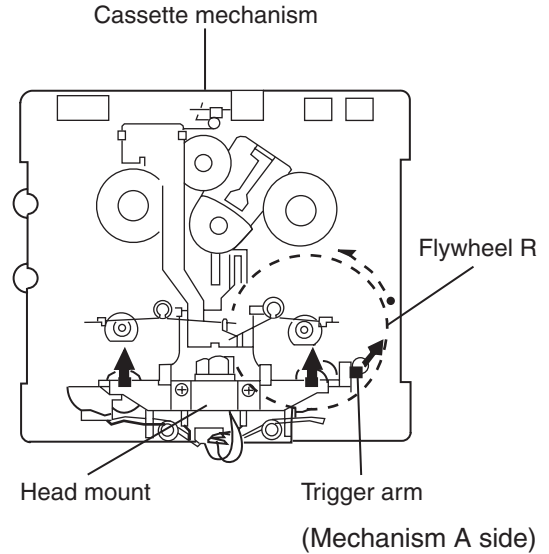

Fig. 1
■ Removing the playback/recording and eraser heads (See Fig. 1~3)
1. While shifting the trigger arms seen on the right side of the head mount in the arrow direction, turn the flywheel R in counterclockwise direction until the head mount clicks. (See Fig. 1)